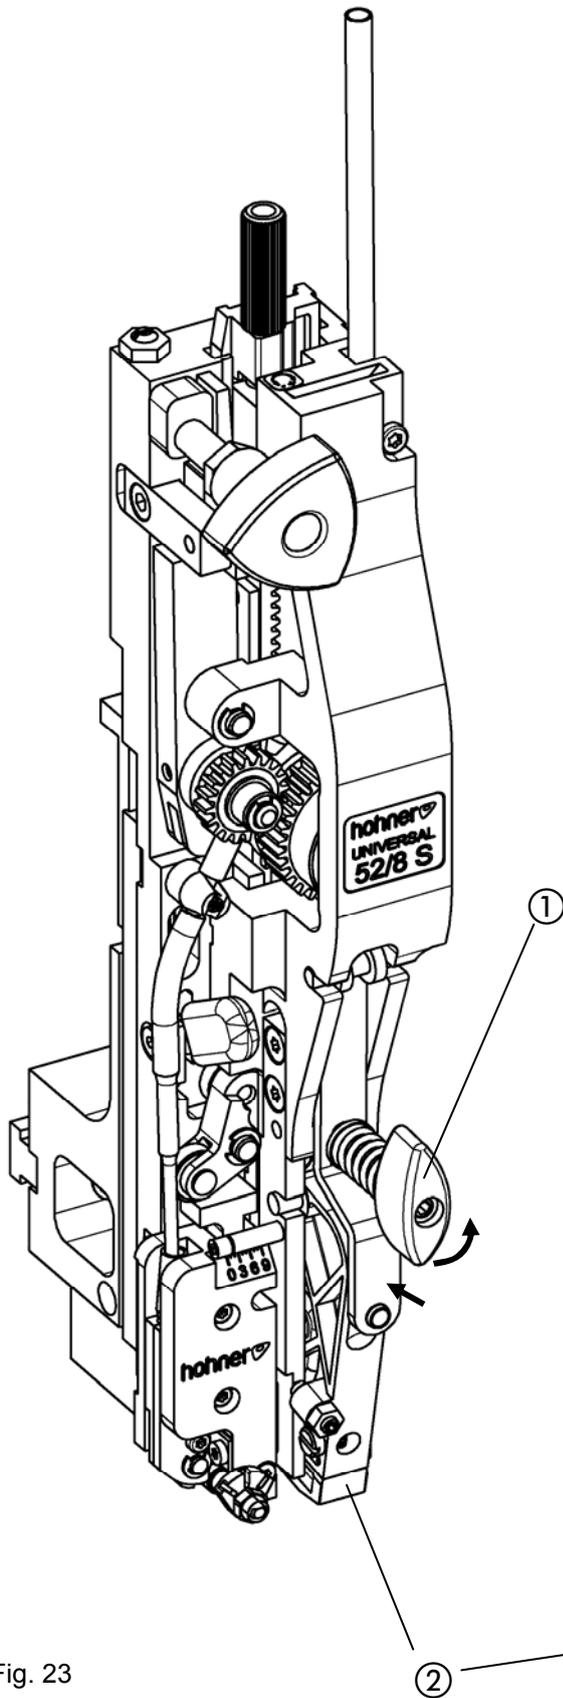
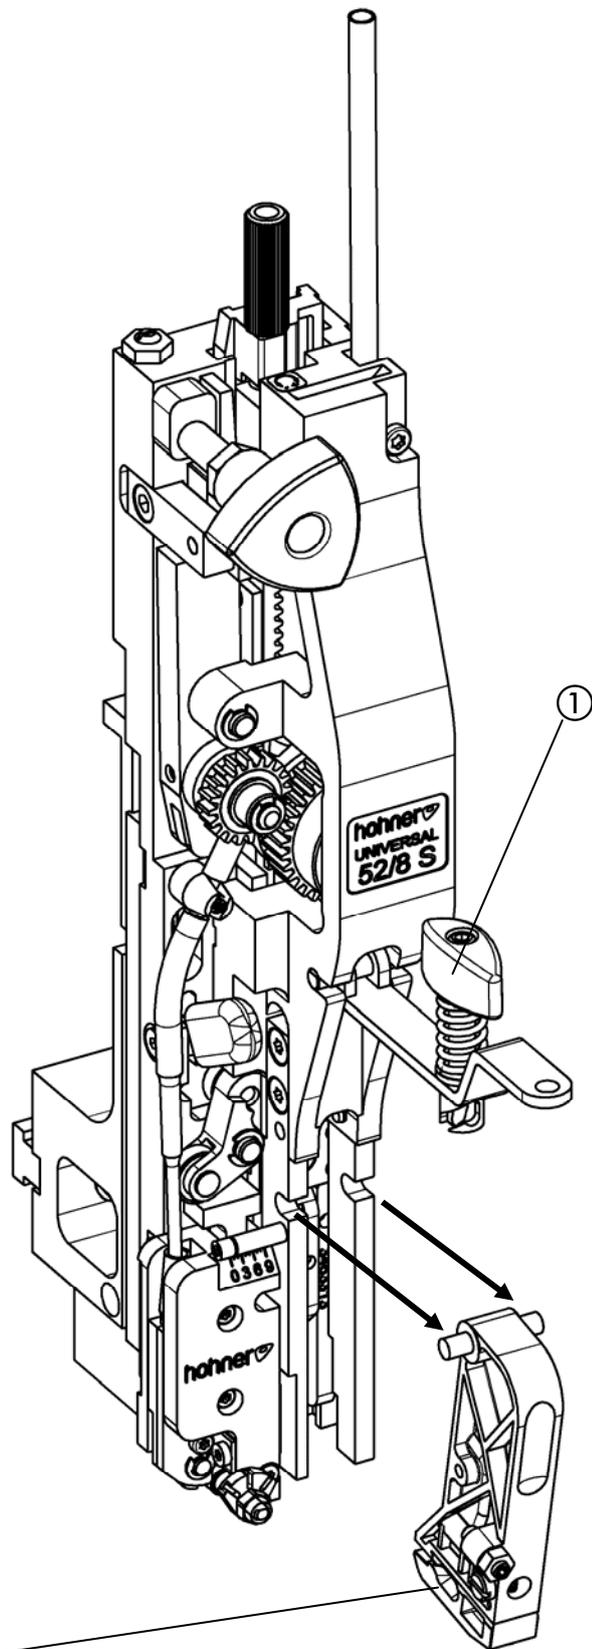

Fig. 23
Fig. 24
- Fig. 23, Fig. 24 -
- Slightly press in gripping yoke ① turn through 90° to the left (anticlockwise) and tilt upwards.
- Remove former ② to the front.